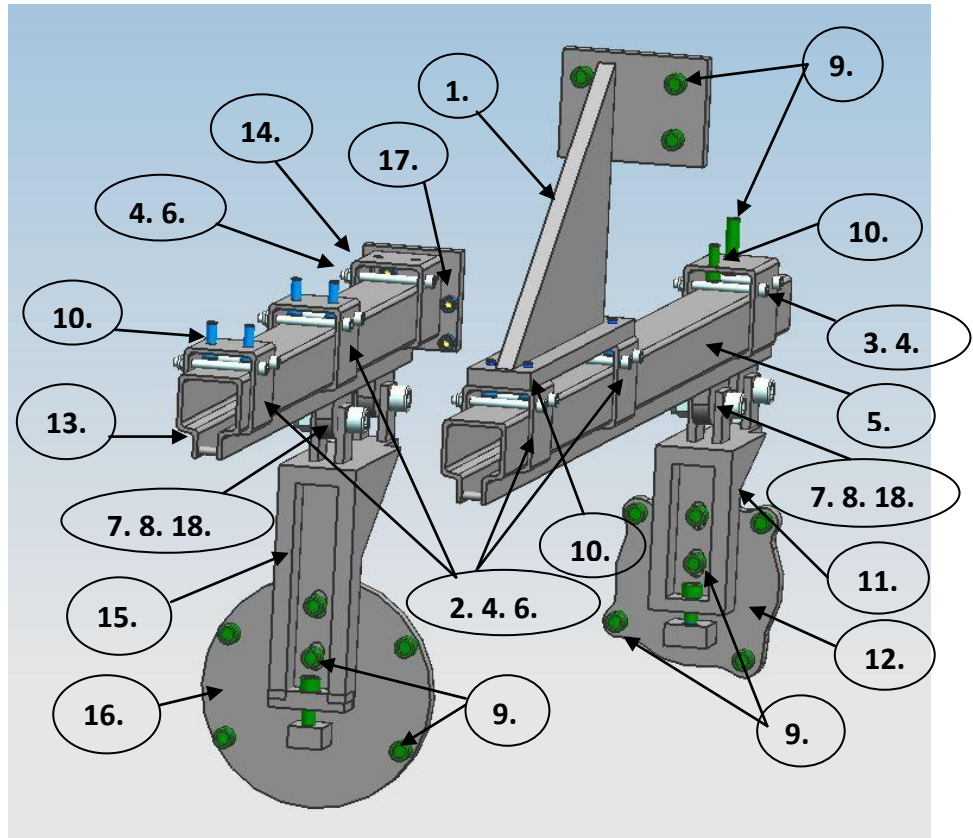

Figure 1. Lifting accessory and component specification
- Lifting accessory for W31 engine pump cover and PTO-shaft moving (Figure 1).